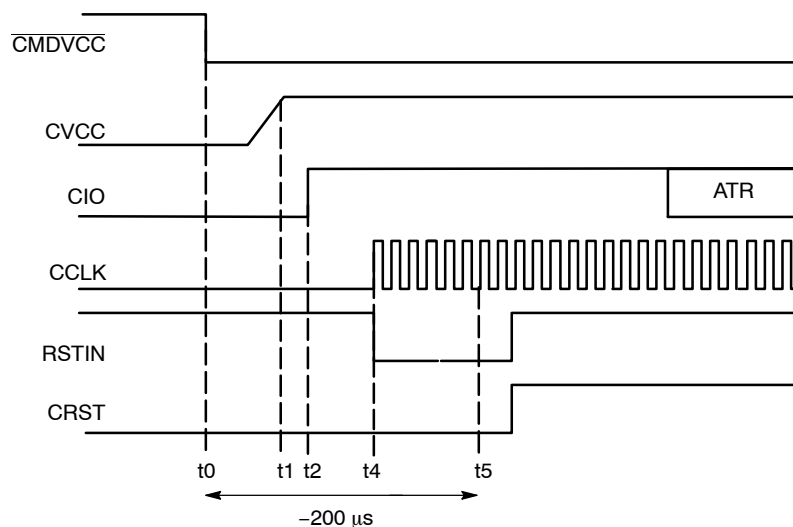

Figure 4. Activation Sequence – RSTIN mode (RSTIN Starting High)
The clock can also be applied to the card using a RSTIN mode allowing controlling the clock starting by setting RSTIN Low (Figure 4). Before running the activation sequence, that is before setting Low $\overline{\text{CMDVCC}}$ RSTIN is set High. The following sequence is applied:
- Between t2 (Figure 4) and t5 = 200 μs , RSTIN is reset to LOW and CCLK will start precisely at this moment allowing a precise count of clock cycles before toggling CRST Low to High for ATR (Answer To Reset) request.